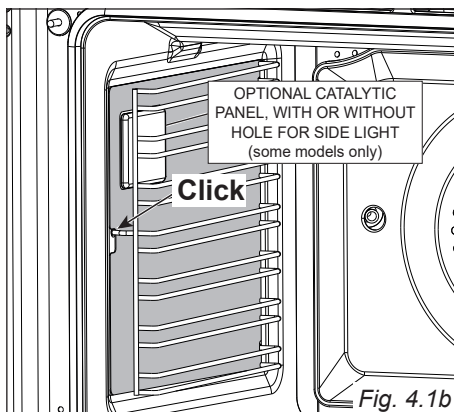

Fig. 4.1b
- Slide the front prong of the side rack into the holes at the front of the oven (fig. 4.1b).